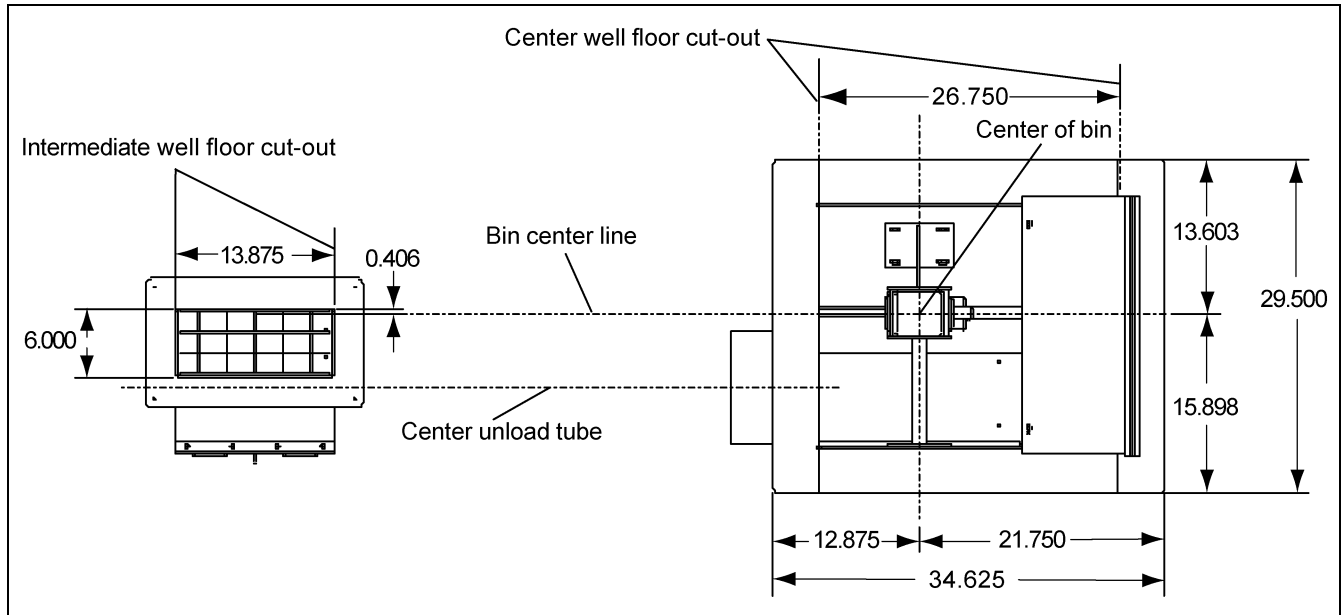
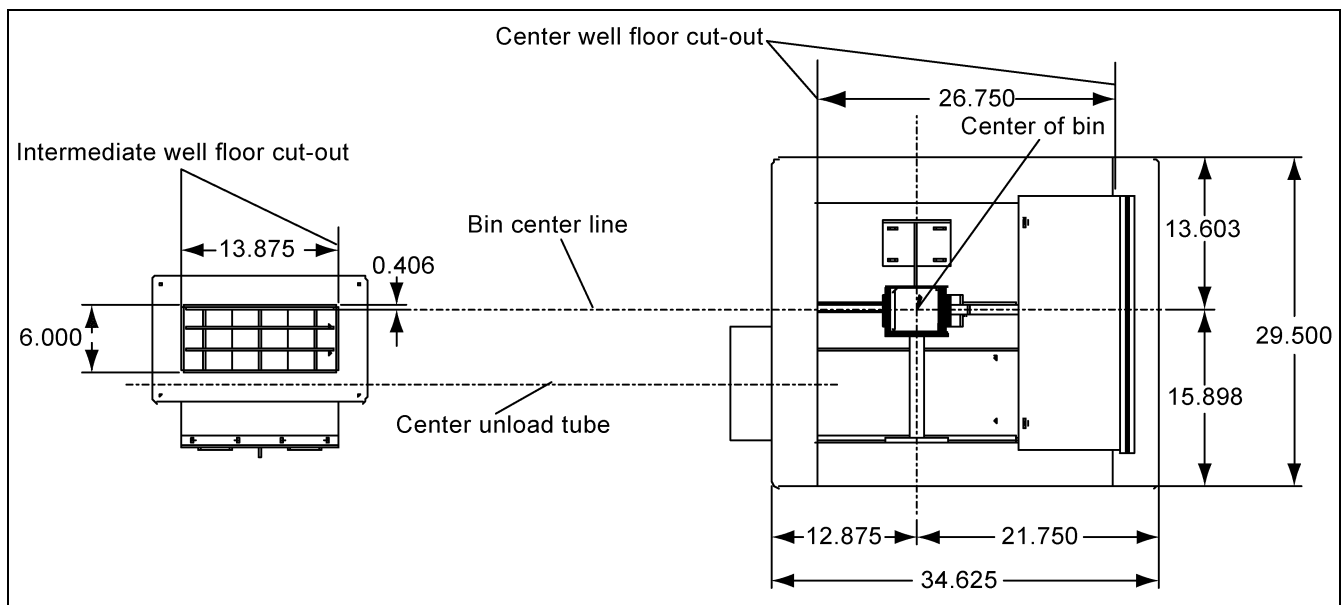

Figure 3B 6" and 8" (15.24 cm and 20.32 cm) Center and Intermediate Well(s) Bin Floor Cut-outs
Figure 3C 10" (25.40 cm) Center and Intermediate Well(s) Bin Floor Cut-outs
1. Locate the center of the bin and make a cut-out in the bin floor for the center well. See Figure 3B for cut-out size and location of 6" and 8" wells. See Figure 3C for 10" wells. Locate the vertical shaft between the gear boxes in the center of the bin. Place suitable supports under the center well to hold it in position.
1. Cut openings in the bin floor for the intermediate wells. (See Figure 3B and Figure 3C on Page 12.) The number of wells depends on bin size. The distances between intermediate wells and the center well should be equal. (See Figure 3C on Page 12 and Chart below.)